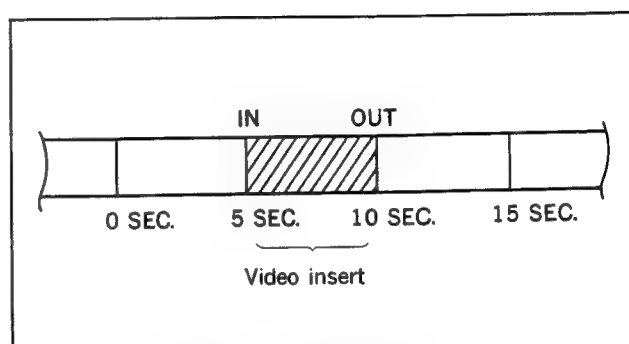

Fig. 6-9-12 Video Insert for RV702 and RV703 adjustments confirmation
13. Thread a commercially available tape type P6-120HMP. Put the unit into REC mode about 15 seconds. (See Fig. 6-9-12)
15. Press the PLAY button from the 0 second point, and press the PLAY and EDIT buttons simultaneously to enter the video insert mode at 5 seconds point without supplying video signal. Press the CUT OUT button to stop the insert mode at 10 seconds point. Put the unit into REV search mode, and rewind the tape to the 0 second point. (See Fig. 6-9-12.)
16. Perform the step 15 operation 5 times. (Repeat the video insert operation at the same position of the tape.) (See Fig. 6-9-12.)
18. Confirm the CH1 wave form (PCM RF) of the oscilloscope. The RF level between 5 sec. thru. 10 sec. portion of the tape is more than 50% against the level between 0 sec. thru. 5 sec. portion of the tape. (See Fig. 6-9-12.)